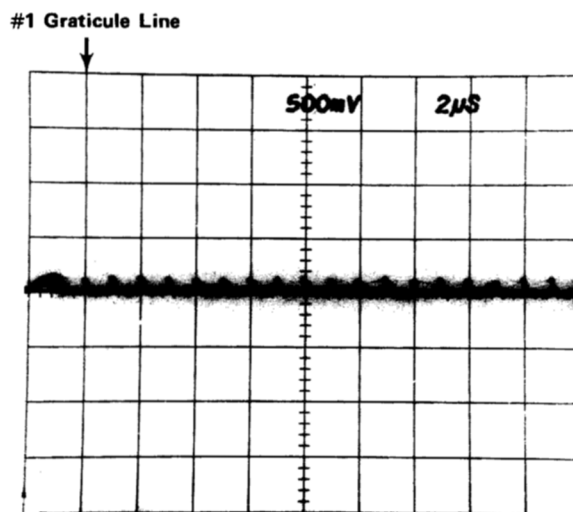

Fig. 7-7. Setting of Leadtime and Registry.
f. Alternately push and release the SWP pushbutton and check that the first narrow time marker remains between 0.0 and 1.1 divisions from the left edge of the graticule (see Fig. 7-7).
b. Turn R472 (see Fig. 7-3) to the clockwise extreme, then adjust counterclockwise until a marker is centered on the number one graticule line (see Fig. 7-7).
d. Adjust R230 (see Fig. 7-3) so that the first narrow marker (see Fig. 7-7) is precisely centered on the number one graticule line.
b. Check that there are two markers per division and that every second marker is within 0.3 division of the corresponding major graticule line for the first through the ninth division (see Fig. 7-7).